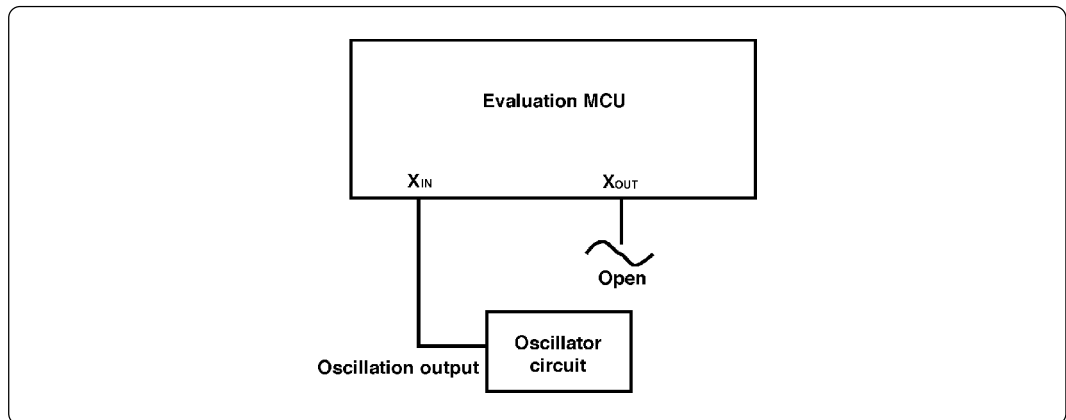

Figure 3.2 External oscillator circuit
- To operate this product with an external clock, construct the oscillator circuit as shown in Figure 3.2 in the target system and input the oscillator output at 50% duty (within the operating range of the evaluation MCU) into the X_{IN} pin. And the X_{OUT} pin should be open.